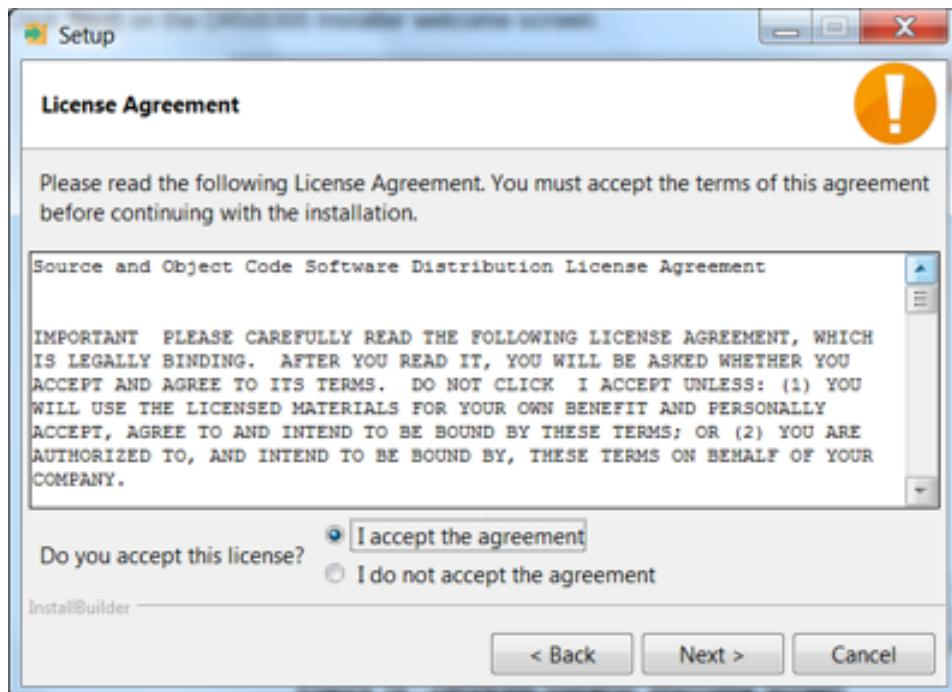

Figure 17. DRV832XX Software License Agreement
- Step 4. Read though and accept the license agreement to proceed with the installation (see Figure 17).